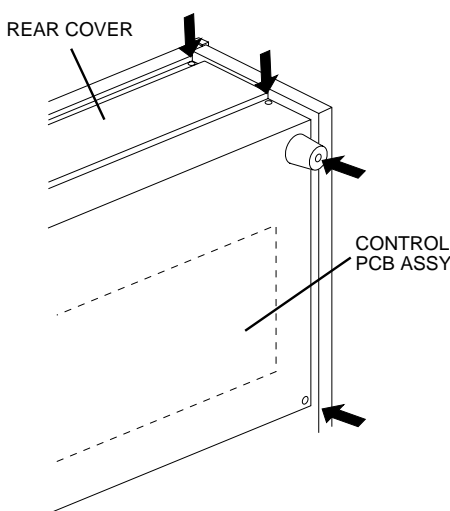

Figure 2-1
1. Remove the rear cover by removing the four screws on the top of the machine, the upper rear feet, and the two screws above the slanted portion of the rear cover. Refer to **Figure 2-1**.